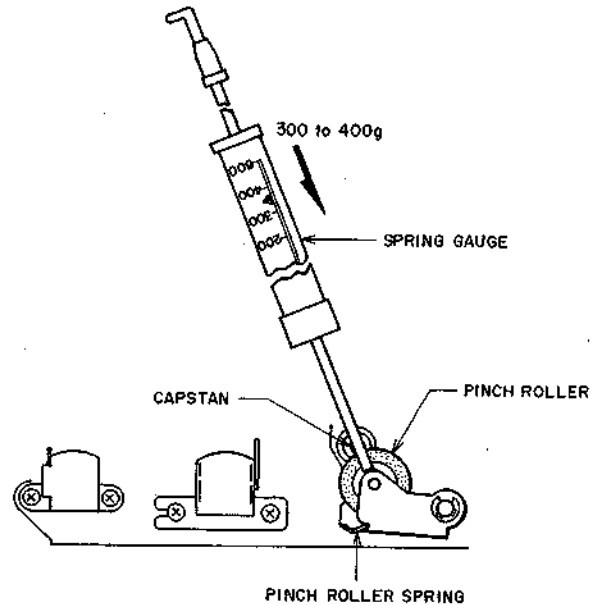

Fig. 6 Pinch Roller Pressure Measurement
3. PINCH ROLLER PRESSURE MEASUREMENT (Refer to Fig. 6)